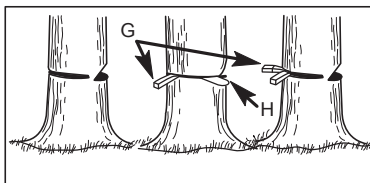

FIG. 2
- Use wooden or plastic wedges (G Fig. 2) to prevent the bar or the chain from getting lodged in the trunk.